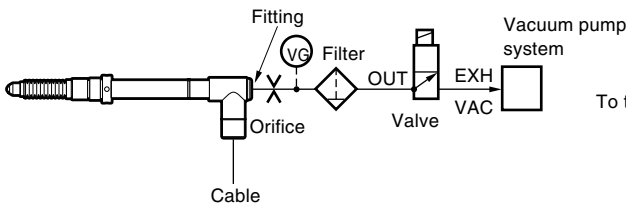
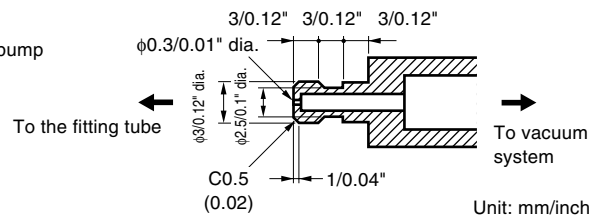

Fig.1 Air-pass system
Fig.2 Dimensions of Orifice
- In operating the probe DG805FL, 810FL with a vacuum pump, use such an air-pass system as shown in Fig. 1. The optimum vacuum rate is 40 to 66.7 kPa. Further, put such an orifice as shown in Fig. 2 on a tube from the air lifter connector to control the air suction and discharge speed. The measuring feeler is lifted at the air discharge to the vacuum pump.